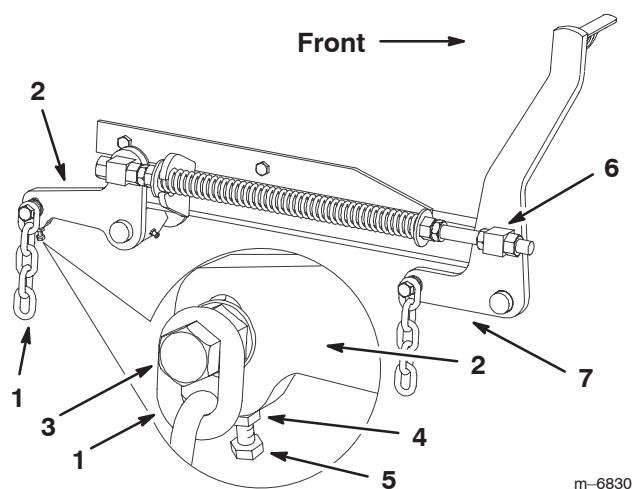

Figure 65
7. If the measurements at positions **B** or **C** are not correct, loosen the bolt attaching the rear chain to the rear support arm (Fig. 65).